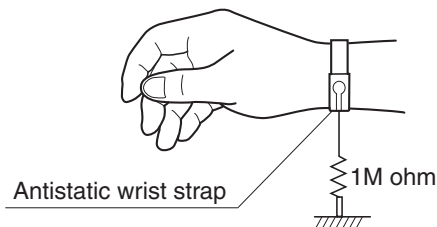

Fig. 1-2-2 Grounding Human Body
(2) Grounding human body (Fig. 1-2-2)